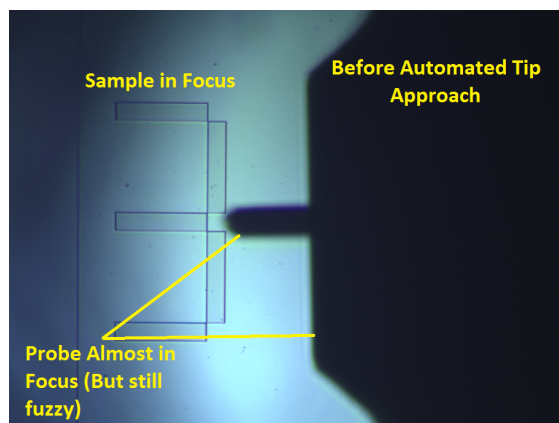

Figure 28: Approximately how focused the cantilever should be before starting an automated tip approach (laser turned off for clarity)
2. Focus the camera on the sample surface. Use the **Down** button in the **Manual Z Motor Control** section of the **Pre-Scan** tab to **slowly** lower the tip to the sample until the cantilever is just slightly out of focus (Fig. 28). Note that sometimes you can see the reflection of the laser on the sample, and when you jog the tip down, you can see the reflection come in 'closer' to the tip - this can be another guide for closeness. Be careful with this though, as it depends strongly on the reflectivity of the sample! Err on the side of caution if unsure. (See pages 33-34 of the TT-AFM Users Guide.)